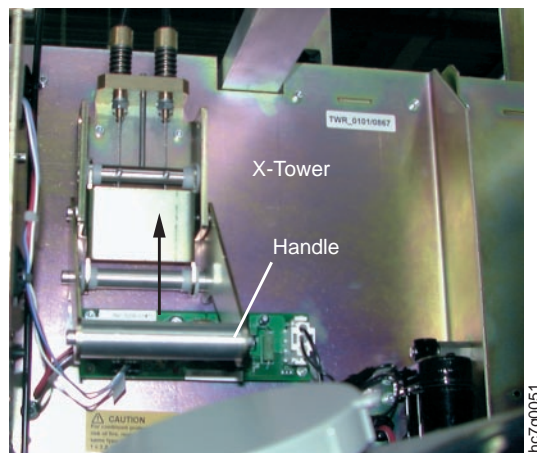

Figure 193. Latch between the X and Y Towers
5. Unlatch the X tower from the Y tower by pulling up on the handle located on the X tower, as shown in Figure 193.
11. Latch the X tower to the Y tower by pulling down on the latch handle. (See Figure 193 on page 218 for the location of the handle.)